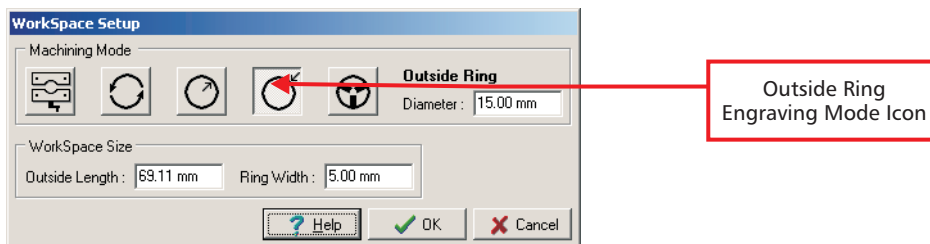

Figure 12
- 13 Now select Auto Layout from the Text Menu or Toolbar icon, you will now have the Auto Layout Dialogue Box, see Figure 12 and can start to setup your job.
- 3 You will now be asked the mode you wish to load, select "Outside Ring Engraving", fourth icon from the left, see Figure 12.